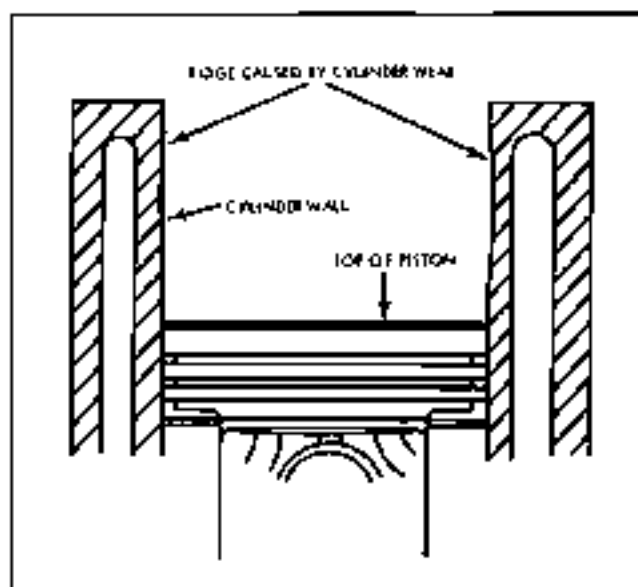

Fig. 6-113 Cylinder Ring Ridge
4. Remove ring ridge (Fig. 6-113) using suitable ring ridge remover.